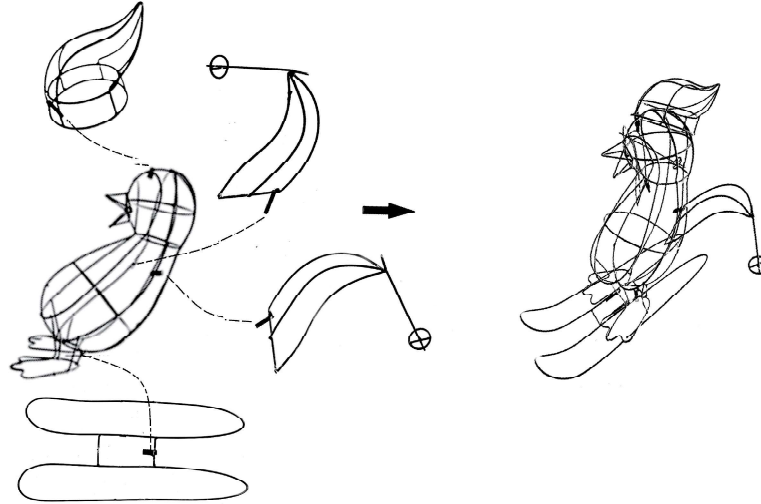

Fig.3
5. Insert the metal posts of the Wings B (I) and Hat B (J) into the corresponding cylinders of the Penguin B (H). Insert posts of the Slide B (K) into the corresponding cylinders of Penguin B (H). Secure whole penguin B by plastic ties.(see Fig.3)